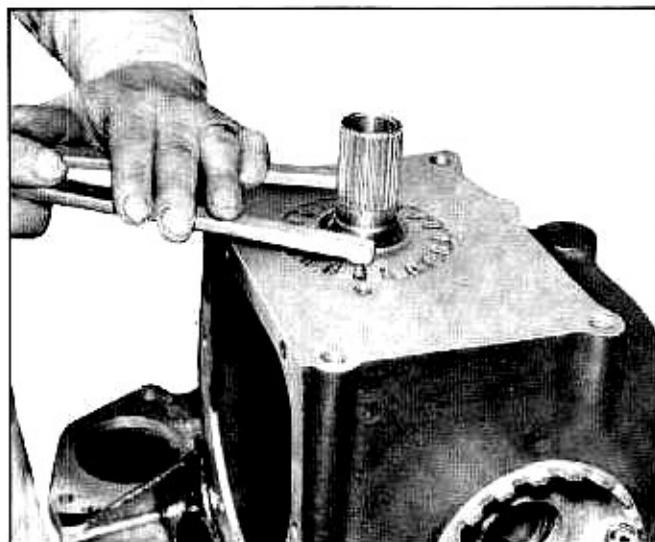
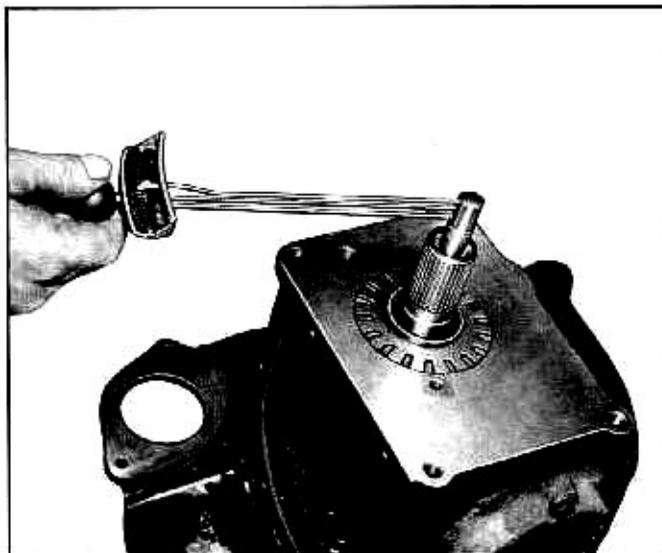

Fig. 10—Tightening Pinion Bearing Adjusting Sleeve
Fig. 11—Measuring Pinion Turning Torque
6. Back off pinion adjusting sleeve as required with Tool J-972 to eliminate any pinion bearing preload (fig. 10), then measure the turning torque created by the side bearing preload at the pinion, using Tool J-8362 Adapter and an inch pound torque wrench such as J-5853 (fig. 11). Record this reading (example, 8 in. lbs.). Then retighten the pinion bearing adjusting sleeve to increase the initial turning torque by 4-6 in. lbs. with used bearings or 9-11 in. lbs. with new bearings. Using the 8 in. lbs. initial turning torque from our example, the final total turning torque measured at the pinion would be 12-14 in. lbs. with used bearings or 17-19 in. lbs. with new bearings.